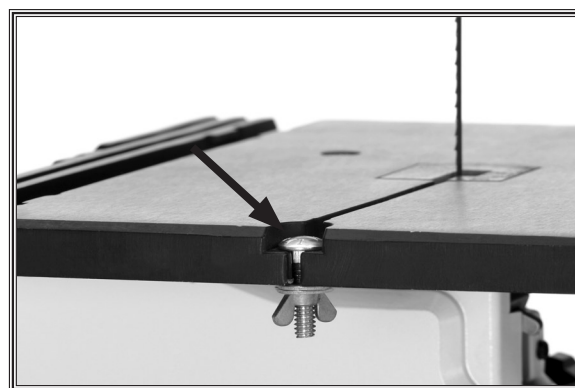

Figure 17. Carriage bolt, washers and wingnut installed onto table.
4. Install the M6-1 x 20 carriage bolt into the slot shown in **Figure 17** and secure with two flat washers and a wing nut.